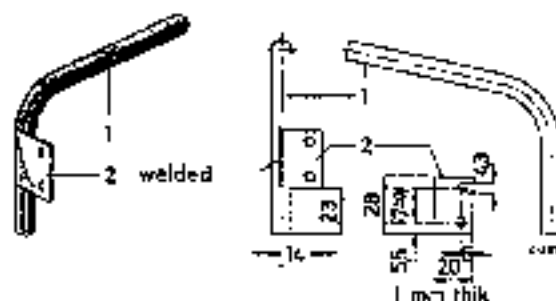

Fig. 01-3/15
<p>Bad idle adjustment</p> <p>Idle fuel jets size 55 not yet installed</p> <p>Mixing tube no. 43 of Stage 1 not yet installed in die-cast carburetors and fuel line to accelerating pump not yet calibrated</p>	<p>Check idle adjustment:</p> <p>Make sure that in the idle position the throttle valves of Stage 2 are completely closed (see Job No. 01-3, Section K)</p> <p>Replace in both Stages idle fuel jets size 50 by jets size 55 (possible also on sand-cast carburetors)</p> <p>Idle fuel jets size 55 are standard equipment as from Engine End No. 65 01365</p> <p>In order to improve speed build-up, mixing tube no. 42 was replaced by mixing tube no. 43 of Stage 1 in die-cast carburetors as from Engine End No. 55 01823. At the same time the fuel line to the accelerating pump was calibrated to 0.5 mm.</p> <p>On engines from Engine End No. 55 00709 (where die-cast carburetors were first installed) up to Engine End No. 55 01822 mixing tube no. 43, Part No. 000 071 09 49, can be subsequently installed in Stage 1</p> <p>This mixing tube no. 43 should only be installed subsequently together with the calibrated sleeve Part No. 000 071 03 40. In order to subsequently calibrate the fuel line to the accelerating pump, the calibrated sleeve (2) is installed on the ball valve (1) in the float chamber and is carefully pressed into position. Care should be taken to ensure that the ball valve pressed into the carburetor housing is not displaced and that the sleeve is not damaged. If the sleeve should be too tight, the internal diameter should be modified accordingly (Fig. 01-3/14).</p>  <p style="text-align: center;">Fig. 01-3/14</p> <p style="text-align: center;">1 Ball valve for fuel admission 2 Calibrated sleeve</p>
The distance between the lower end of the pipe and the drain funnel must be approx. 10 mm. Make sure that this distance is maintained. Instructions for fastening and arranging the pipe apply to both die-cast and sand-cast carburetors. On recent cars the pipe is no longer fastened to the air scoop bracket by a pipe clip, but by a retaining plate welded to the pipe. This new retaining plate can also be subsequently welded to the pipe (Fig. 01-3/15).